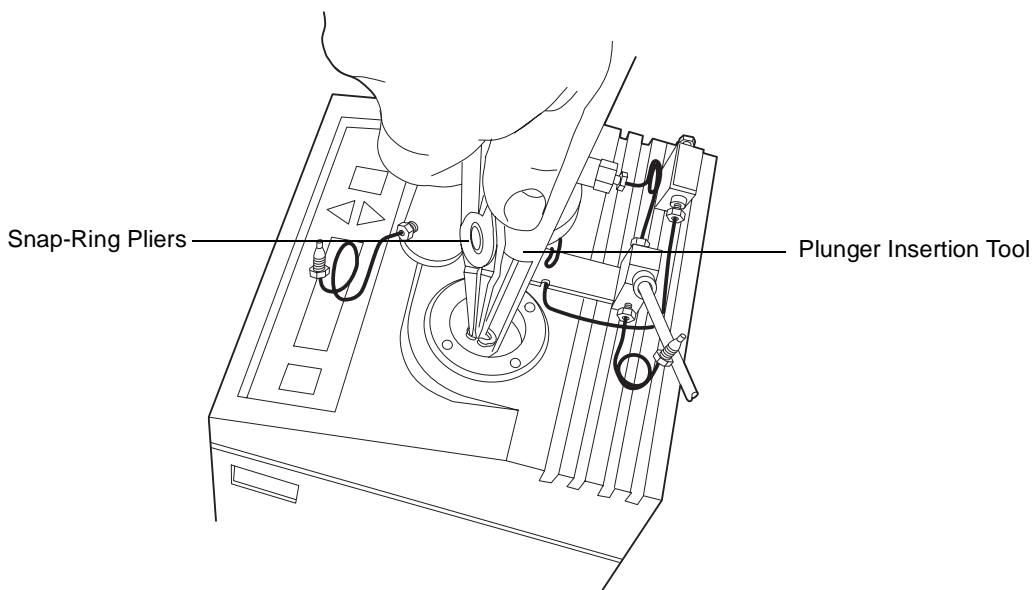

Figure 4-6 Inserting the Plunger
2. Use the plunger insertion tool and snap ring pliers to insert the plunger assembly into the pump. You may find this step easier if you set the pump on its back (see Figure 4-6).